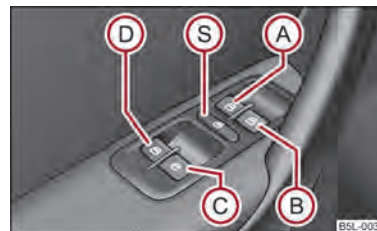

Fig. 19 Buttons on the driver's door
The buttons for the individual windows are located in the armrest of the driver's door → fig. 19, front passenger seat and in the rear doors → page 40.
You can deactivate the buttons for power windows at rear doors by pressing the safety pushbutton Ⓢ → fig. 19. The buttons for power windows at rear doors are activated again by pressing the safety pushbutton Ⓢ again.
- It is recommended to deactivate the electrically operated power windows in the rear doors (safety pushbutton Ⓢ) ⇒ fig. 19 when children are being transported on the rear seats.